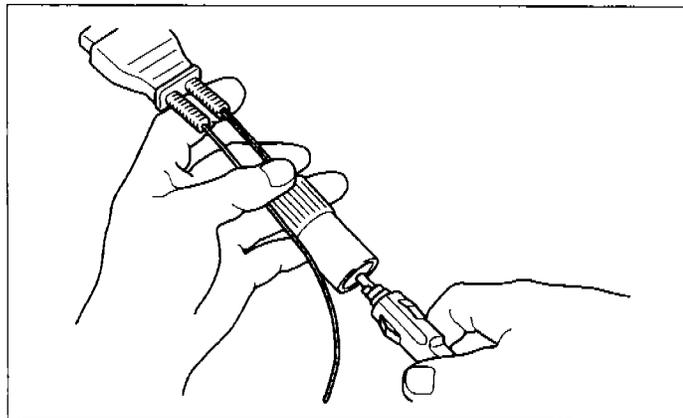

Fig. 2-8
- c: Plug the NGS tester power cable directly into the NGS OBD-II Adaptor power cable connector (Fig. 2-8)